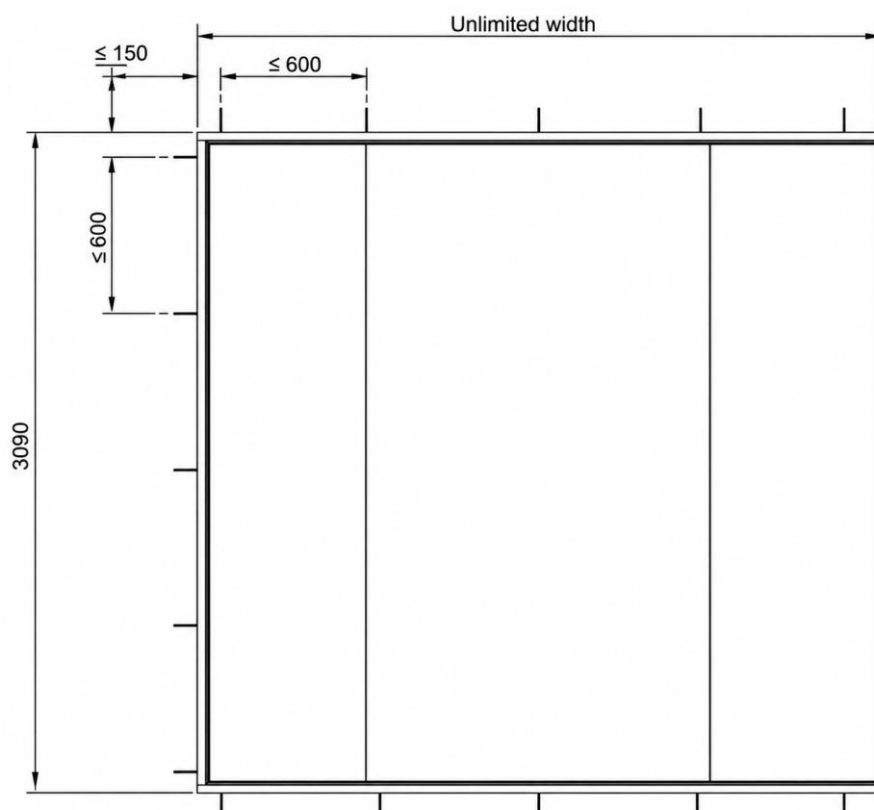

Figure 3: Butt-joint glazing, straight design
- Butt-joint glazing, straight design (Figure 3)